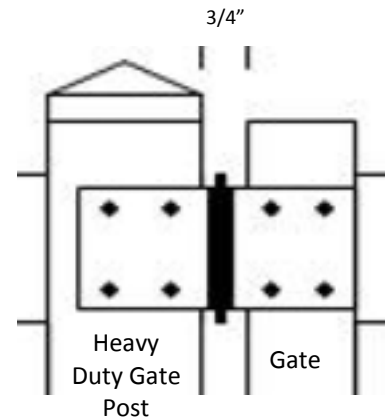

Fig. 8
Step 4. Using the eight 8-3/4" screws provided (for each hinge), attach both hinges as marked, and firmly fasten into place (Fig. 8).